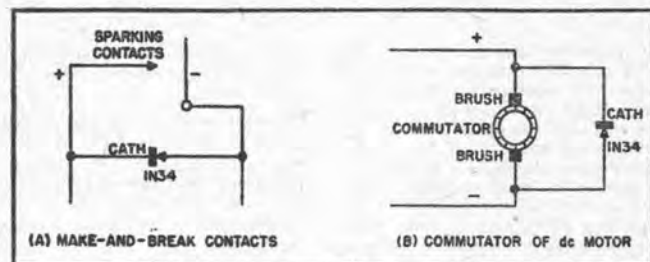

Figure 9. Spark Quencher Circuits.
FIGURE 9 shows how crystal diodes may be connected across sparking contacts and across the brushes of a small dc motor to suppress sparking. Such sparking leads to damage of the contacts or commutator and sets up radio and television interference.
The scheme shown in Figure 9(A) is especially effective for thermostats, dc switches, and low-voltage contactors. The circuit of Figure 9(B) is intended for small battery-operated motors, such as those employed in models, gaming machines, and similar devices. This method of spark quenching often is superior to the better-known use of capacitors in parallel with firing contacts. But it is not applicable to auto radio vibrators or electric razors where the back-voltage may run into a thousand volts or higher. The maximum reverse voltage peak which a 1N34 can tolerate is 75 volts; and for a 1N56 is 50 volts.